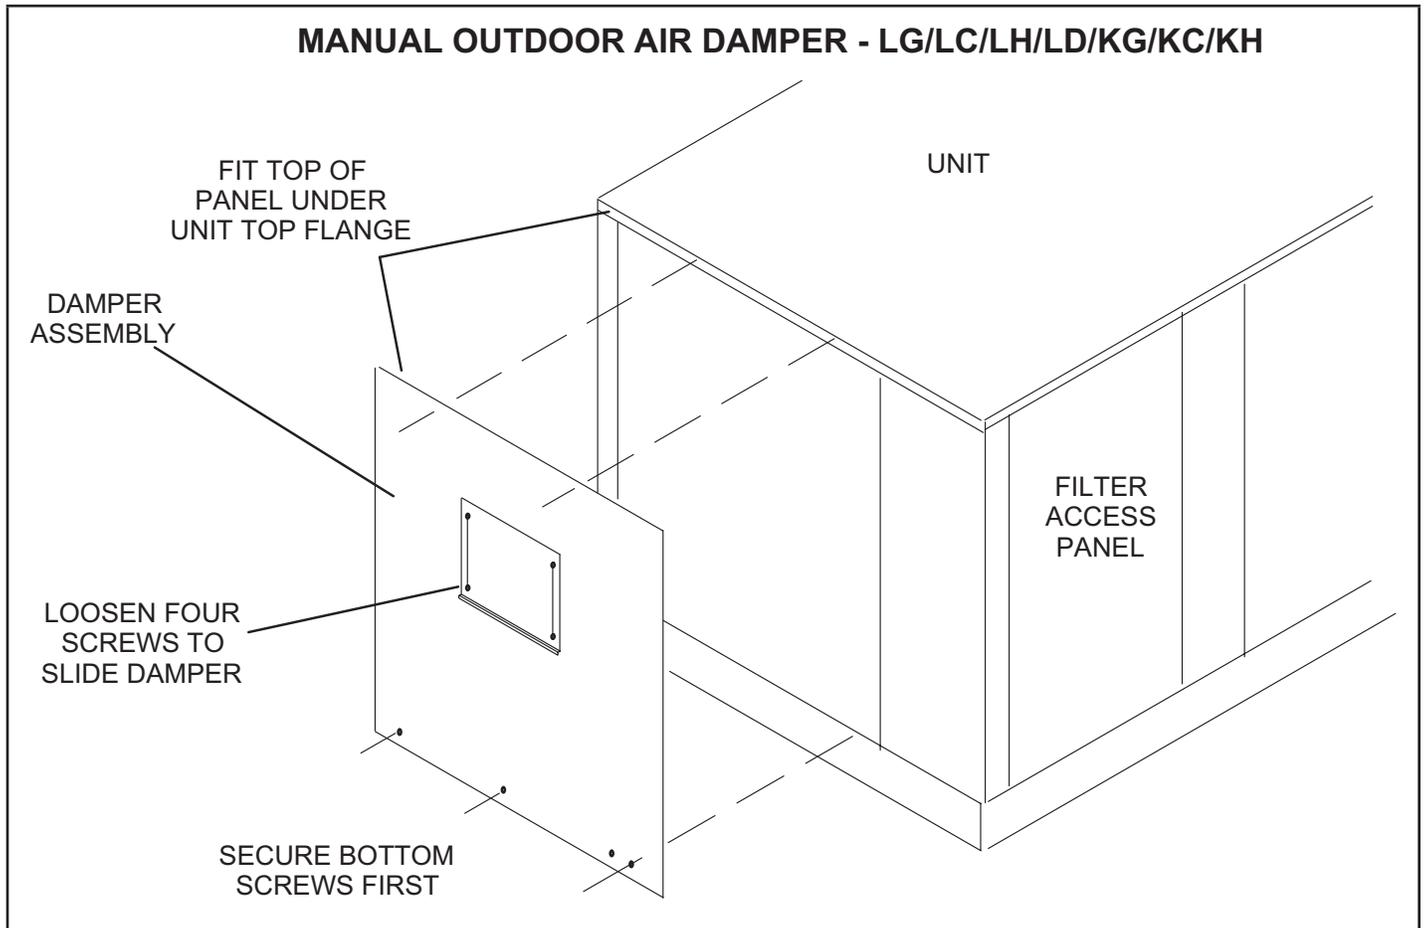

FIGURE 13
- 4 - Insert top of damper assembly. See FIGURE 13. Secure the bottom of the assembly using retained screws. Secure the top of the assembly with retained screws.